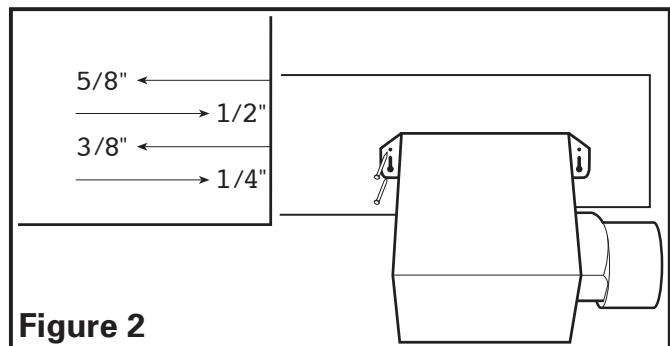
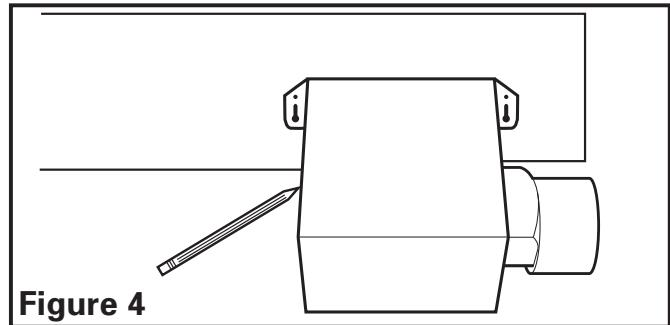

Figure 2
Figure 4
2. **Mounting Tab Installation:** Using the gauge on the fan's housing, line up housing so that it will be flush with the finished ceiling. Position the fan so that the tabs rest flat against the joist and secure with four nails or screws (not provided) to ensure proper installation (**Figure 2**).
- 1b. **Mounting Tab Installation:** Position housing against the joist and trace an outline of the housing onto the ceiling material (**Figure 4**). Set housing aside and cut opening, being careful not to cut or damage any electrical or other hidden utilities. Place housing next to the joist and insure that it is flush with the finished ceiling. Secure with four nails or screws (not provided) to ensure proper installation (**Figure 2**).